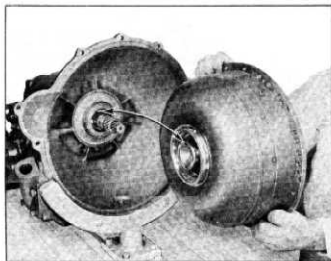

Fig. 139—Aligning Primary Pump with Front Pump Drive Lugs
12. Assemble primary pump aligning front pump drive gear tangs with drive slots in pump hub (fig. 139). Face of pump must be flush with face of bell housing.